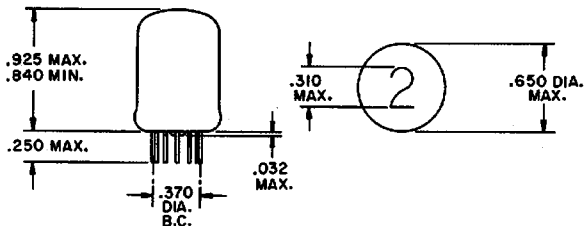

Fig. 2 — Outline Drawing for all Miniature Tubes except Type 7977
Outline Drawing *	Figures 2 or 3
*All Miniature Type NIXIE tubes are available in both Short and Long Lead versions. Short Lead versions are shown in figure 2 and 3. The Long Lead tubes have 1.400" leads and are designed for direct solder connection to circuit boards. The tubes can be ordered by applying the suffix L to the regular tube type number (Ex: 7977L, B4021L, 7009L, B4081L.)